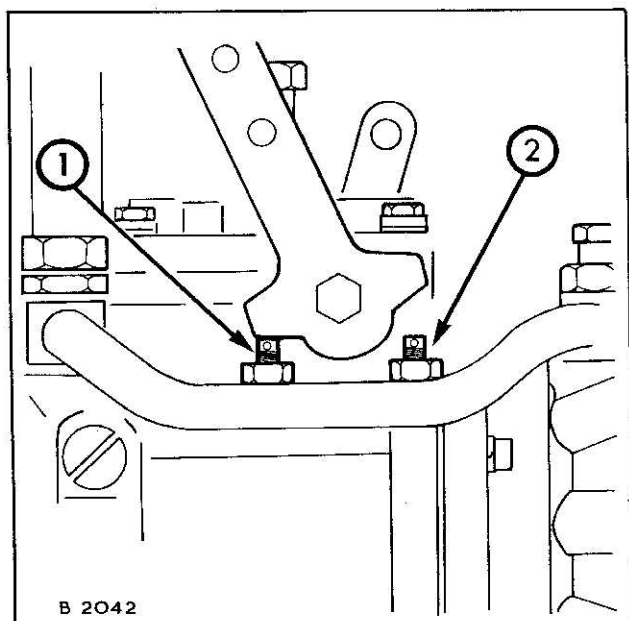

Fig. 7
With engine at normal working temperature, adjust slow running speed to 600/650 rev/min by the front adjustment screw of throttle lever (1), Fig. 7.
The maximum speed adjustment screw (2), Fig. 7, on original fuel pumps is sealed at the factory and should not be interfered with. When fitting a replacement pump, however, the maximum no load speed should be checked and reset, where necessary.